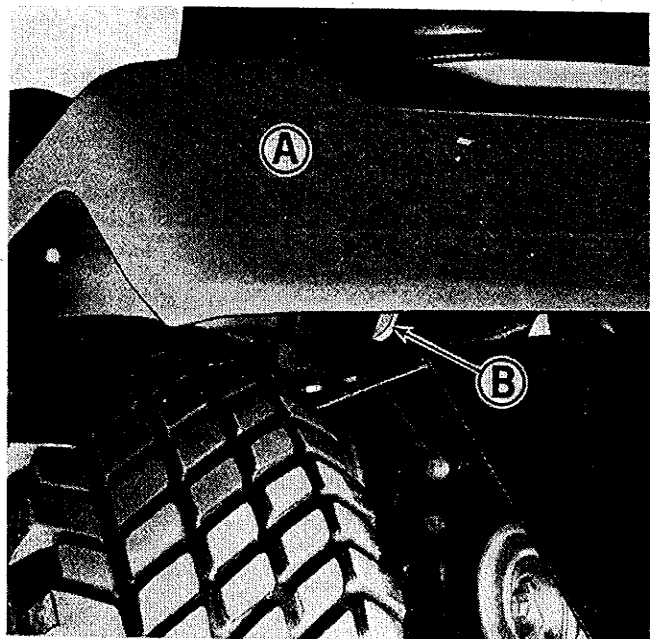
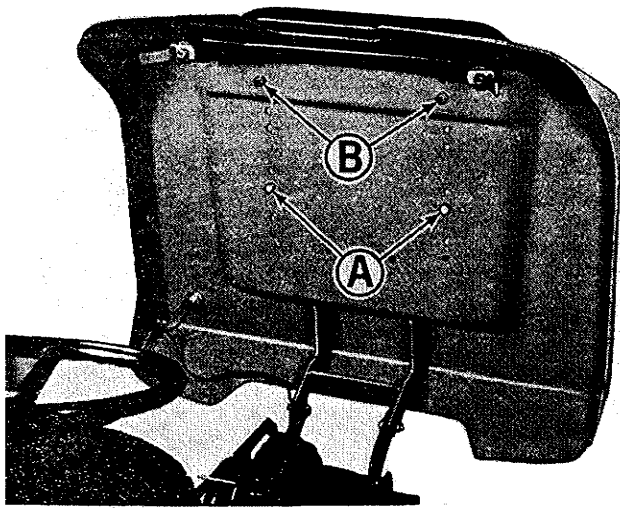

Figure 8. Seat deck release at front of seat deck.
Figure 9. Seat deck raised.
See figure 8. The tractor seat deck (A) is hinged at the back. To raise the seat deck, reach under it from each side and pull the two locking levers (B) to the outside. As you hold the locks out raise the seat deck as shown in figure 9. Raising the seat deck in this manner will expose many of the
See figure 9. The tractor seat is properly adjusted when the operator can comfortably operate the clutch and brake pedal while sitting back in the seat. The seat can be adjusted forward or back in any of four positions. If adjustment is required, proceed as follows:
1. See figure 9. Position the seat deck as shown by following the instructions under Raising the Seat Deck on page 10.
2. Remove the two cap screws and lock washers at (A).
3. Remove the two nuts and lock washers at (B).
1. Raise the seat deck as shown in figure 9, by following the instructions under Raising the Seat Deck on page 10.